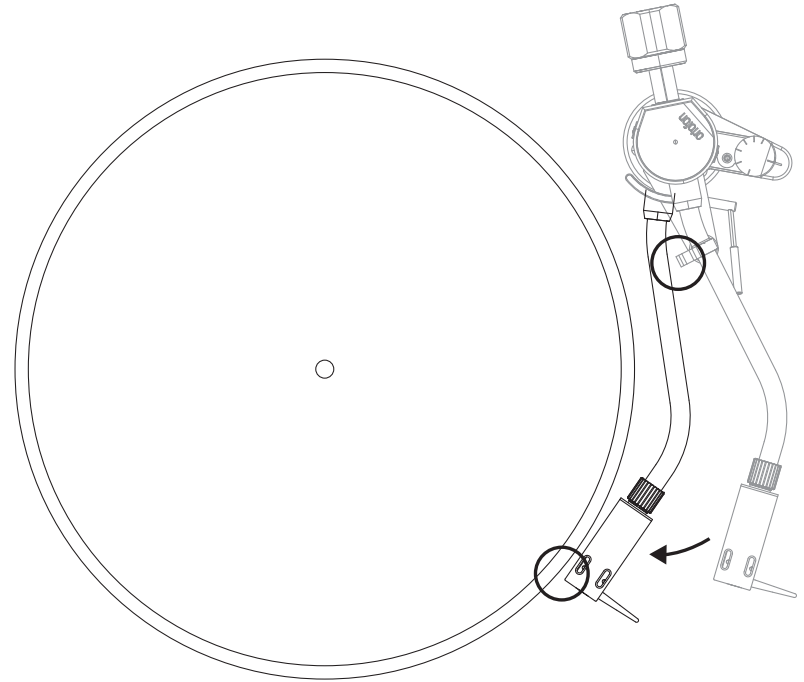

Figure 12
4. Check if the arm pipe contacts the arm rest when the tip of the headshell is placed near the outer circumference of the platter (two points indicated by the circles in Figure 12)